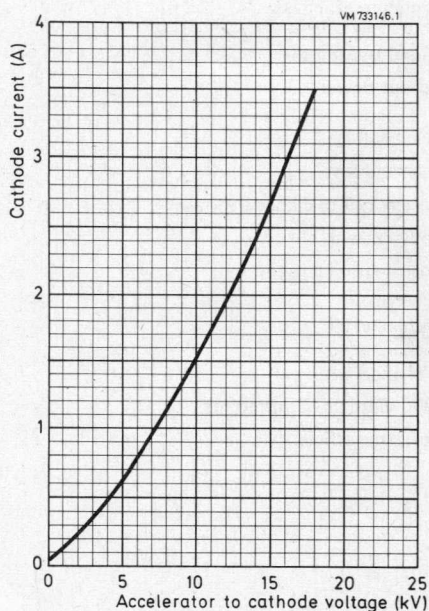

Fig. 4.
6. For cathode current (tolerance $\pm 5\%$) versus accelerator-to-cathode voltage, see Fig. 4.